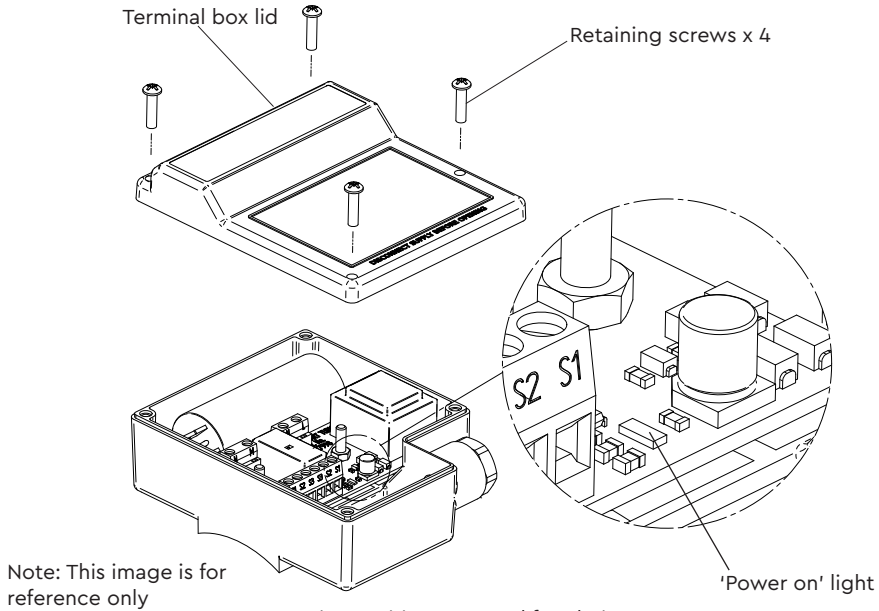

Fig. 7 Wiring removed for clarity
- Remove the four screws retaining the terminal box lid (Fig. 7).